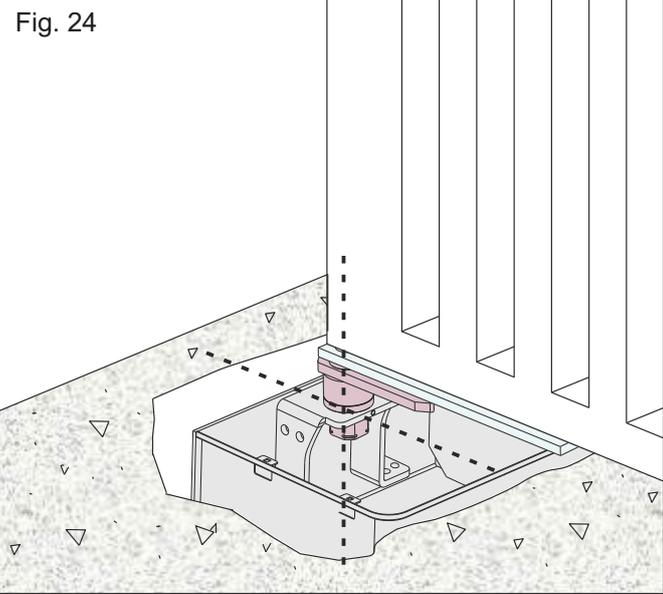
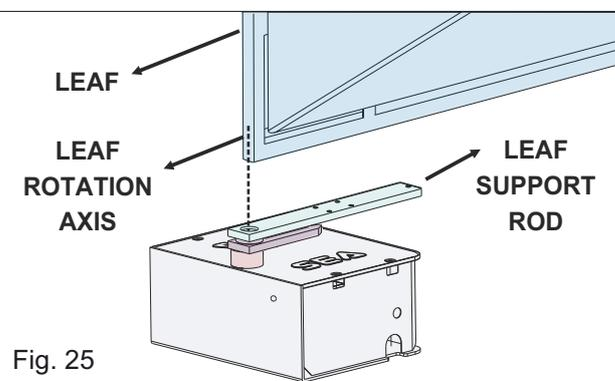

Fig. 24
Fig. 25
4.1. Place the gate leaf on the support rod, taking care to make the rotation axis of the leaf hinge coincide with the rotation axis of the support; be sure to respect the perpendicularity with the rotation axis (Fig. 24 - Fig. 25)